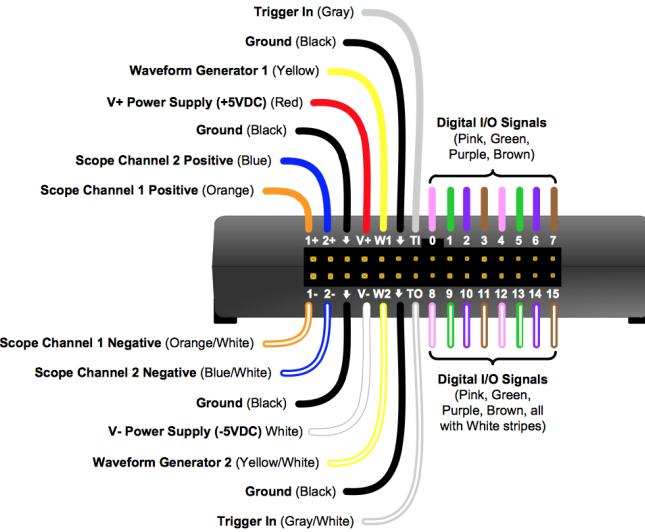

Figure 19: Pin out diagram of the Analog Discovery
4. Connect the output of the LPF to the “1+” pin of the Analog Discovery. Connect the ground reference of the LPF to the “Ground” pin. A pin out diagram of the Analog Discovery is shown in Fig. 19.